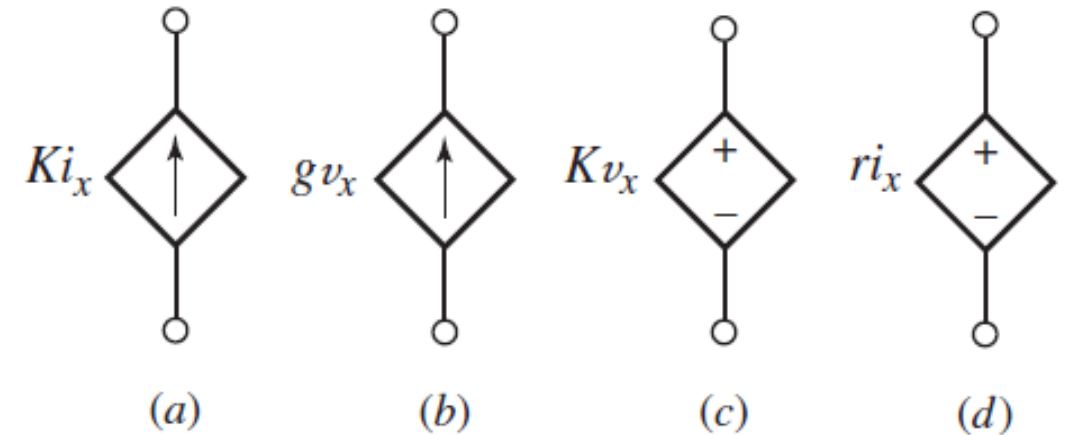

Fig. 4 Circuit symbols for the four different types of dependent sources:
- Fig. 4(d),  $r$  is a scaling factor with units of V/A.